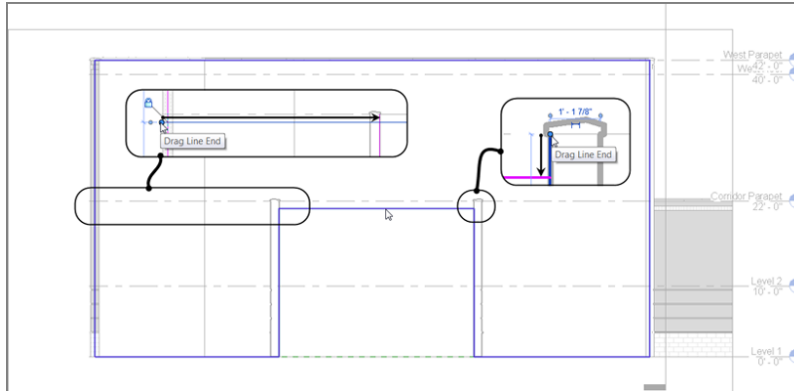

FIGURE 4.41: Modifying the sketch lines by stretching the grips to form a continuous loop
3. On each end is a round, blue grip. Pick each grip, and stretch the line to the intersection of the vertical magenta lines, as shown in Figure 4.41.
4. Select the left, vertical magenta line, and stretch the top grip down to the intersection of the horizontal magenta line (see Figure 4.41).
5. Select the right, vertical magenta line, and stretch the top down to the horizontal magenta sketch line. You should now have a continuous loop (see Figure 4.41).